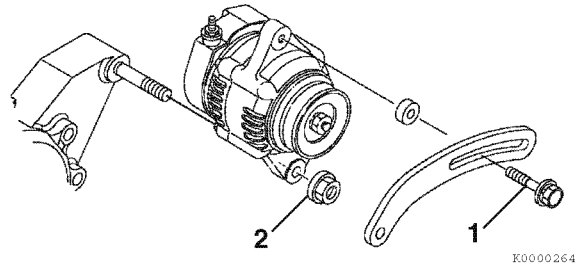

Figure 12-4
3. Remove the V-belt adjuster from the alternator bolt (Figure 12-4, (1)).
4. Remove the nut (Figure 12-4, (2)) from the gear case stud. Remove the alternator.